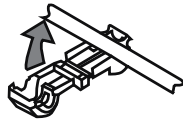

Figure 5
2. Place the wire in the open channel of the Wire Tap (016) supplied, fold the tap body and crimp with pliers. (See Fig. 5 and 6)